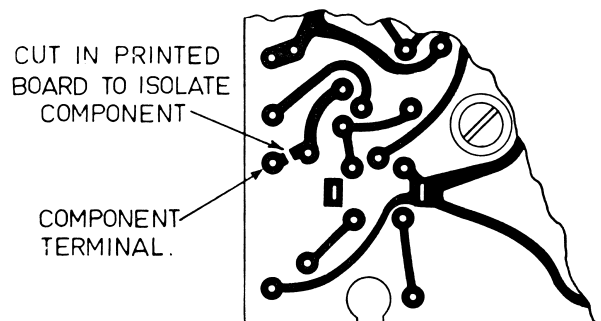

FIG. 4—COMPONENT ISOLATION ON PRINTED CIRCUIT BOARD.
8. To make a circuit isolation of a component without removal of either terminal, with a sharp knife cut through the printed wiring to that component as shown in Fig. 4. This wiring break is then easily bridged with a soldering iron. However this method should only be used where absolutely necessary.